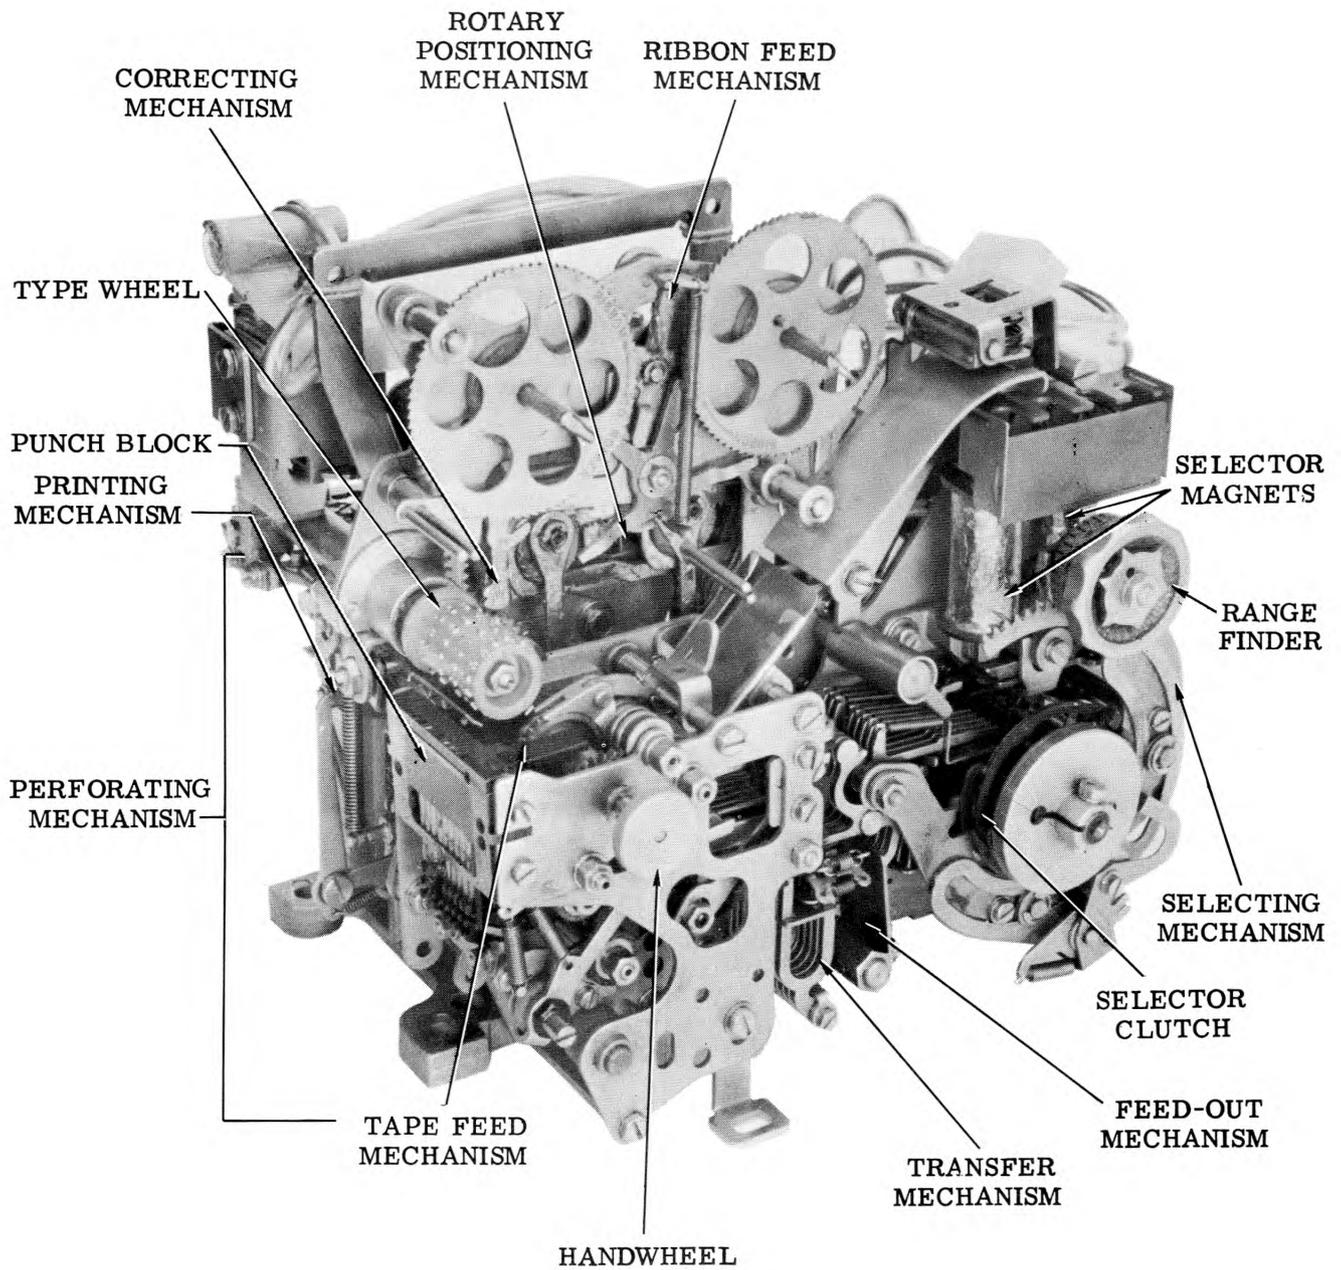

Figure 1 - 35 Typing Reperforator (Left Front View)
1.01 This section provides disassembly and reassembly for the 35 typing reperforator unit (Figures 1 and 2). It is revised to include recent engineering changes, additions, and to rearrange the text. Since this is an extensive revision, marginal arrows ordinarily used to indicate changes have been omitted.